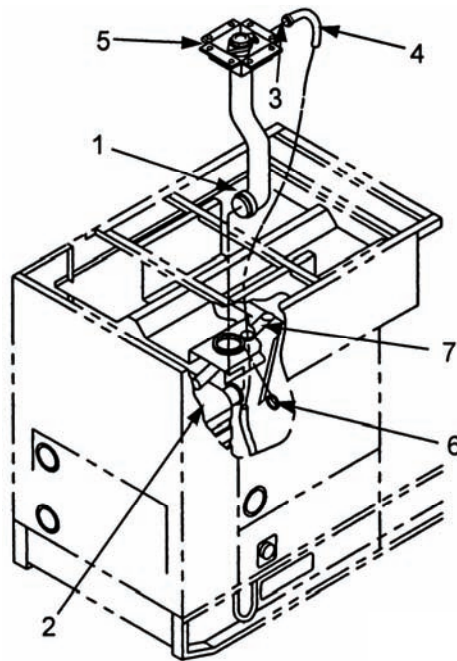

Figure 5-6. Coolant Filler Hose and Panel Assembly.
- b. Loosen clamp (1, Figure 5-6) at radiator (2) and disconnect coolant filler hose and panel assembly (5) from radiator.
- c. Loosen clamp (3) and disconnect coolant overflow hose (4) from coolant filler hose and panel assembly (5).
- d. Remove coolant filler hose and panel assembly (5) from generator set.
- e. Cut wire ties (6) supporting coolant overflow hose (4) to upper and lower radiator supports (7).